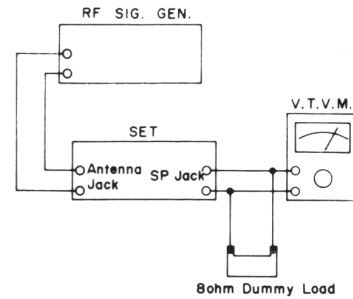

Figure 5
4. Connection of test equipment is shown in Figure 5.